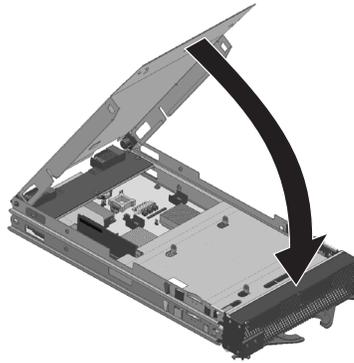

Figure 22. Closing the blade server cover
2. Close the inner cover. It clicks into place when it is closed, see Figure 22, step 1.
3. If you removed the blade bezel assembly, replace it now. See “Installing the blade server bezel assembly” on page 58 for instructions, and Figure 22, step 2.
4. If you removed the second power board, replace it now, see Figure 22, step 2.
7. Pivot the cover to the closed position as shown in the illustration, until it clicks into place, see Figure 22 on page 60, step 3.